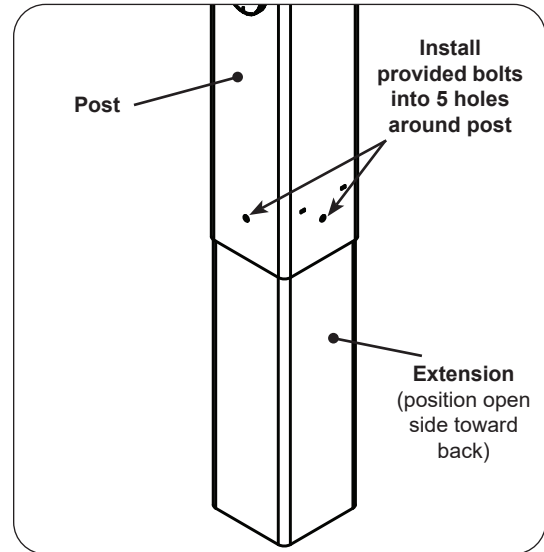

Fig. 26-1 Install extension to post
1. Attach the extension to the bottom of the grill post so that the open portion is toward the back of the grill and the five holes in the extension line up with the five (5) weld-nuts in the post (see Fig. 26-1).